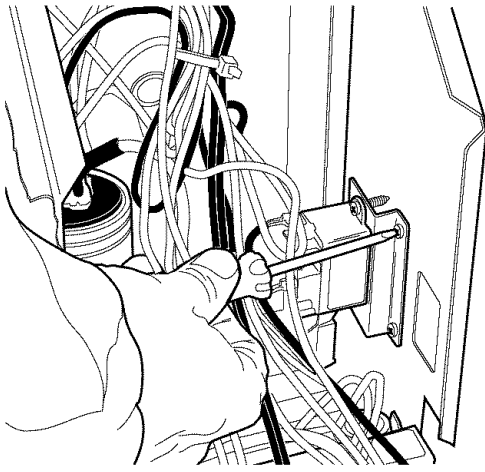

Fig. 3 — Mount Relay Assembly on the Right Side of the Control Box
3. Attach the relay assembly to the 2 holes in the right side of the control box as shown in Fig. 3, using two no. 8 x 3/8 in. screws included.